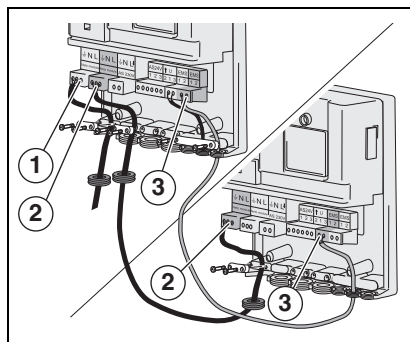

Fig. 4 Connect two modules with each other, make mains connection
It is possible to connect several different modules (e.g. EM10 and VM10) to each other. To connect two or more modules, the mains connection (→ fig. 4, [2]) and the EMS connection (→ fig. 4, [3]) can always be interconnected.
- ▶ Connect the Logamatic RC thermostat to the EMS connection (→ fig. 4, [3]).
- ▶ Connect the 230 V AC mains supply (→ fig. 2, [1] and fig. 4, [1]).